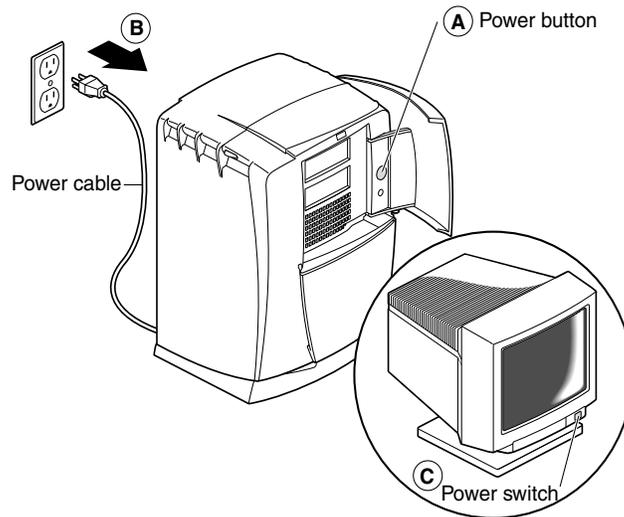

Figure 3 Powering Off the Octane Workstation
1. Open the cover and push the power button (see A in Figure 3) to power off the Octane workstation.
2. Unplug the power cable (B).
3. Press the monitor power switch (C) to power off your monitor.